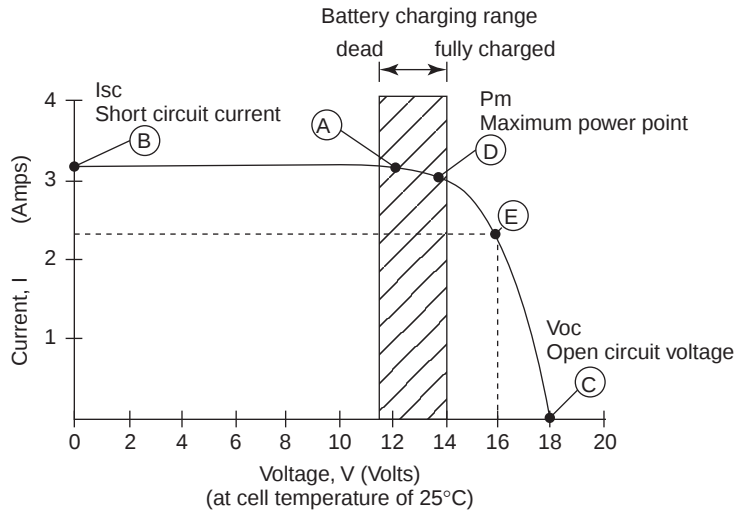

Figure 3.4 The I-V curve
Figure 3.4 shows an I-V curve for a module rated at 42Wp at STC. The left-hand side (I) gives the current the module produces depending on voltage. The bottom side gives the voltage produced by the module at various currents. At each point along the line, you can determine the power of the module by multiplying the current by the voltage. For example, imagine a battery being charged by a module: at 12 volts (Point A, Figure 3.4), the current from the module is 3.2 amps and the power output is 38.4 watts (amps $\times$ volts = power, so $12\text{V} \times 3.2\text{A} = 38.4\text{W}$, which is less than the rated 42Wp).
There are several points of interest about the I-V curve in Figure 3.4:
- P_m , the maximum power point, is the point on the I-V curve where the module produces the greatest power (its rated maximum, which in this example is 42Wp). The maximum power point is always found at the place where the curve begins to bend steeply downward ('the knee', Point D). It is advisable to operate a module as near to the maximum power point as possible. If, for example, the module in Figure 3.4 is operating a load that demands 16 volts (Point E), power output (at 36 watts) is much less than that at the maximum power at Point D.
The shaded portion of Figure 3.4 shows the voltage boundaries within which a lead-acid battery is charged. A battery in a low state of charge is close to 11V, a battery in a high state of charge may be above 14V. Note from the I-V curve that as a battery's charge increases, the charging current from the module begins to decrease.